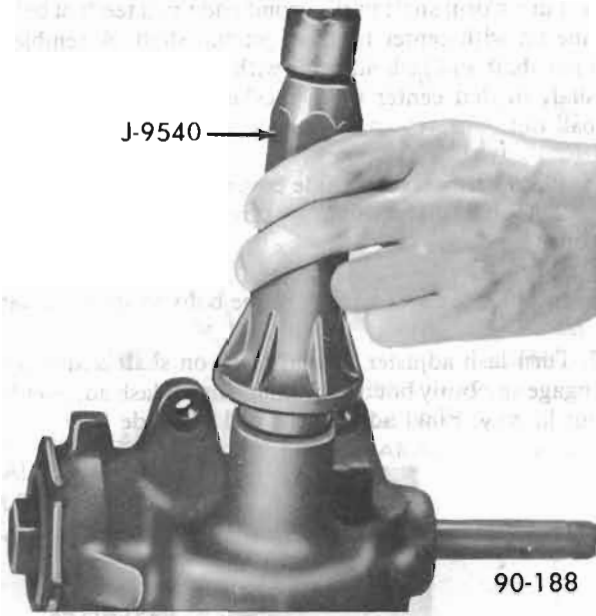

Figure 90-6 Installing Pitman Shaft Seal - Shaft Installed
**NOTE:** It is not necessary to disassembly gear to replace worm seal. Remove worm seal with an awl being careful not to damage housing or shaft and install a new seal with installer J-8564. See Figure 90-6.
**NOTE:** If only pitman shaft seal is going to be replaced do not disassemble pitman shaft and side cover, but remove seal with an awl and install seal using Installer J-9540. Seal is to be installed flush with housing. See Figure 90-6.